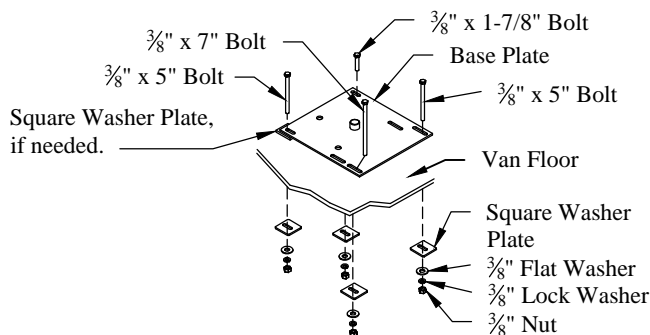

Figure 4: Base plate hardware.
- 9. Bolt** the base plate to the vehicle floor using the hardware provided (Figure 4). Be careful not to collapse the reinforcement rib when tightening the long bolts.